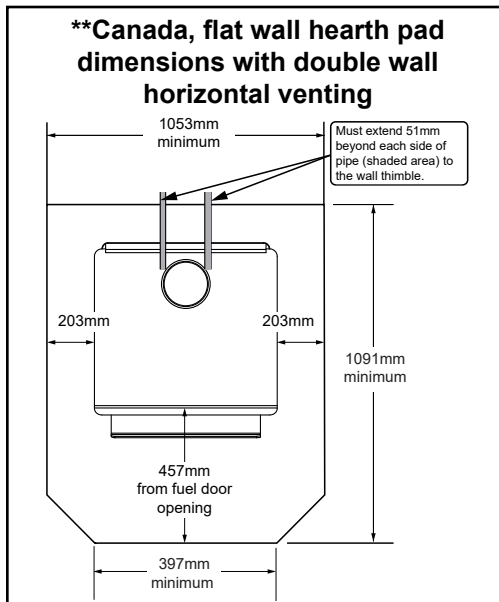

Figure 9.2 - \*\*This dimension will vary depending installation.
**In Canada,** similar floor protection must be provided 18 inches (457mm) in front and 8 inches (203mm) from the sides and rear of the appliance unless the hearth pad is placed against the wall (**Figure 9.2**). Then the clearance may be reduced using double wall pipe and the **Clearance to Combustibles** table listed on page 10.
**\*Exception:** Non-combustible floor protector must extend beneath the flue pipe when installed with horizontal venting and extend 2 inches (51mm) beyond each side; **See Figure 9.2**